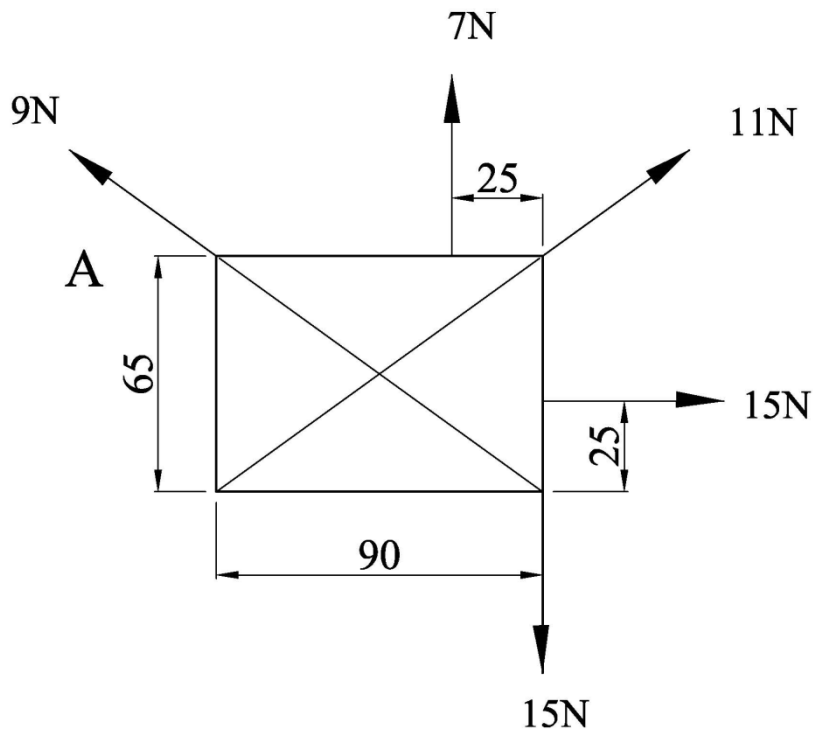

Figure 2b
- a) Copy, full size, the space diagram shown in Figure 2b and letter the forces using Bow's notation. (2)
- b) Draw a force/vector and polar diagram. Use a scale of 10 mm representing 1 N. (4)
- c) i. Construct the funicular polygon to determine graphically the magnitude and direction of the equilibrant; (5)
- ii. Show the resultant on the space diagram. (2)